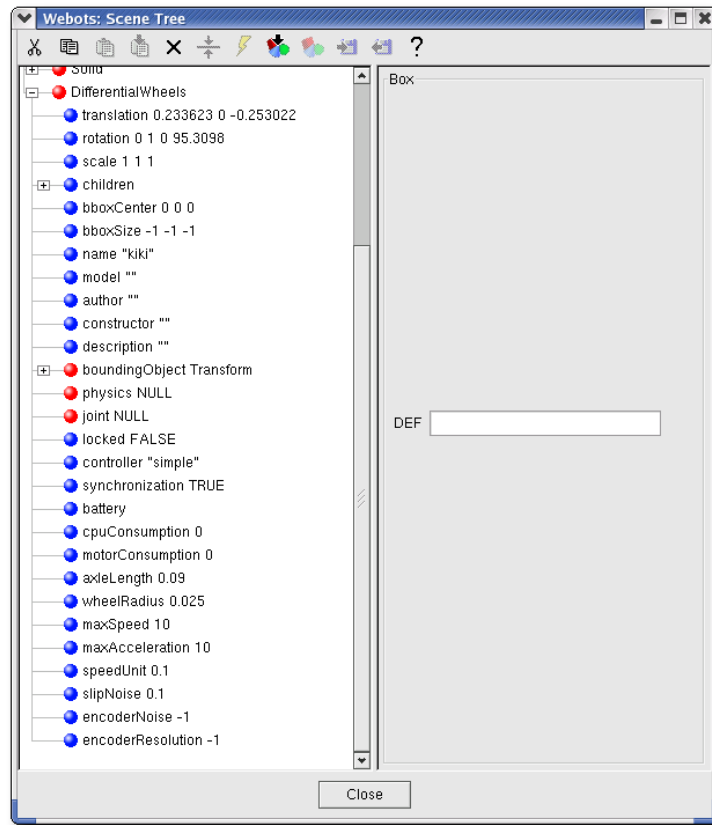

Figure 3.13: The other fields of the DifferentialWheels node
5. Values for other fields are shown in figure 3.13 and the finished robot in its world is shown in figure 3.14.